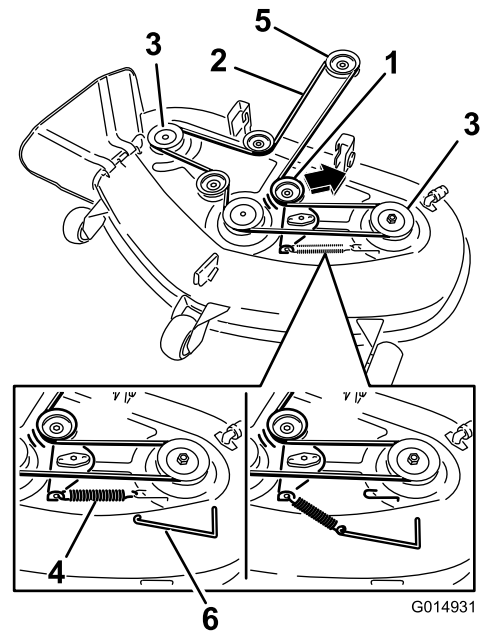

Figure 66
6. Route the new belt around the engine pulley and mower pulleys (Figure 66).
7. Using a spring-removal tool, install the idler spring over the deck hook, and place tension on the idler pulley and mower belt (Figure 66).
5. Using a spring-removal tool (Toro Part No. 92-5771), remove the idler spring from the deck hook to remove tension on the idler pulley, and roll the belt off the pulleys (Figure 66).